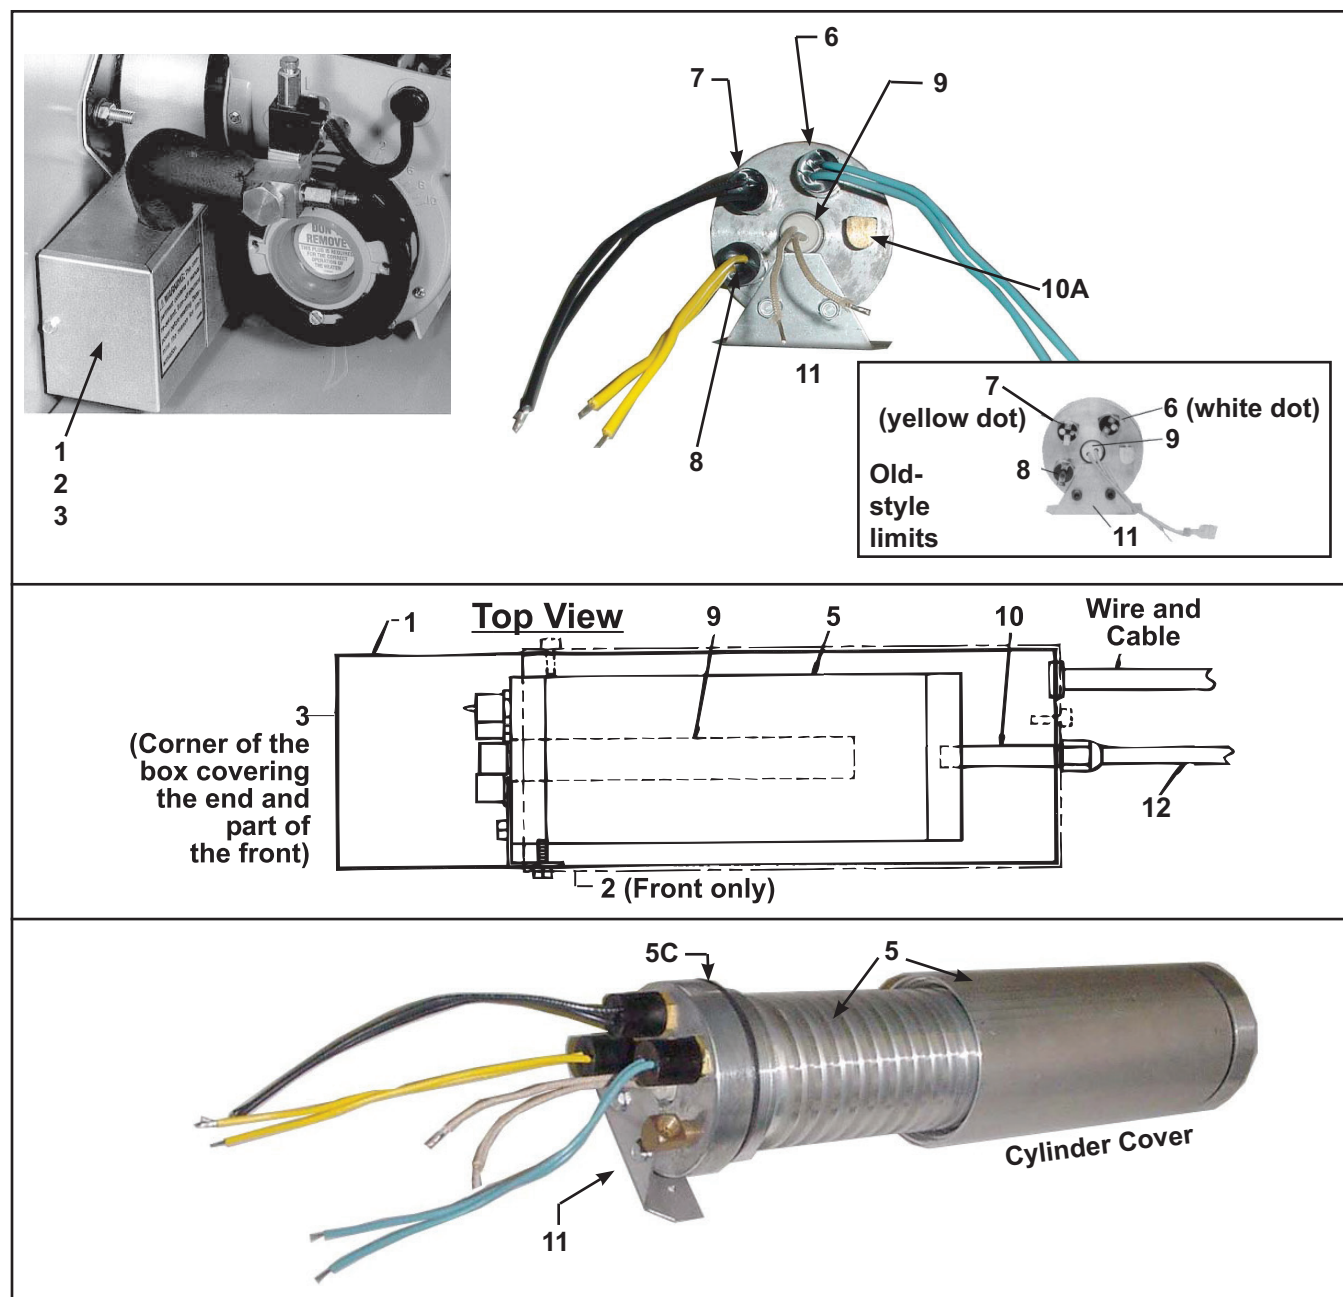

Figure 2. Oil Pre-Heating System Components (Refer to Table 3)
- Oil pre-heating system components are shown in Figure 2 and listed in Table 3.
- To remove the heating element (item 9), remove the heater front support and pull the heating element forward.
- The oil is heated as it flows around the cylinder (item 5A).